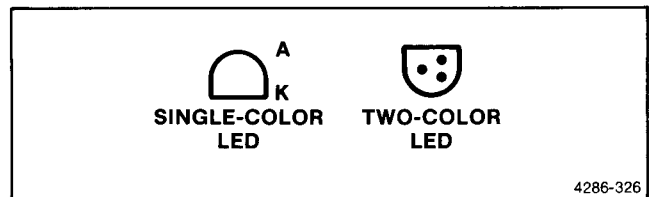

Figure 3-24. Pins of single-color and two-color LEDs.
*The LED and Switch Boards each have LED-orientation diagrams, as shown in Figure 3-24.*